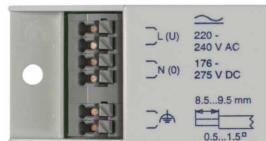

Bild 2/Fig. 2
The mains connection has to be set to terminals L(U) and N(O). (Fig. 2)